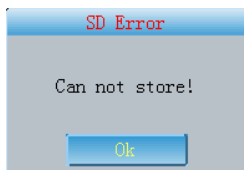

Fig. 7-30
(2) If you select "Only store" mode, when there is no SD card or SD card operating error, the prompt as Fig.7-30 will appear to prompt users that store is disabled because of SD card error..